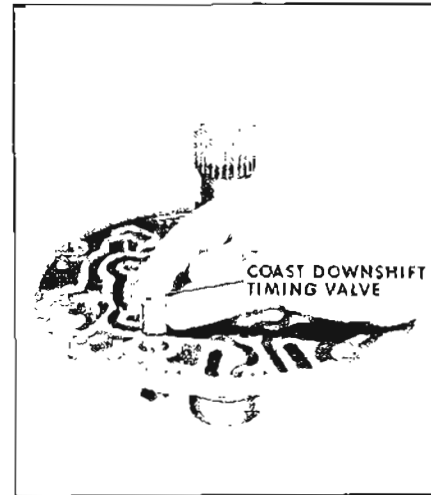

Figure 5-208
6. Install coast downshift timing valve "button end" up in cover. See Figure 5-208.